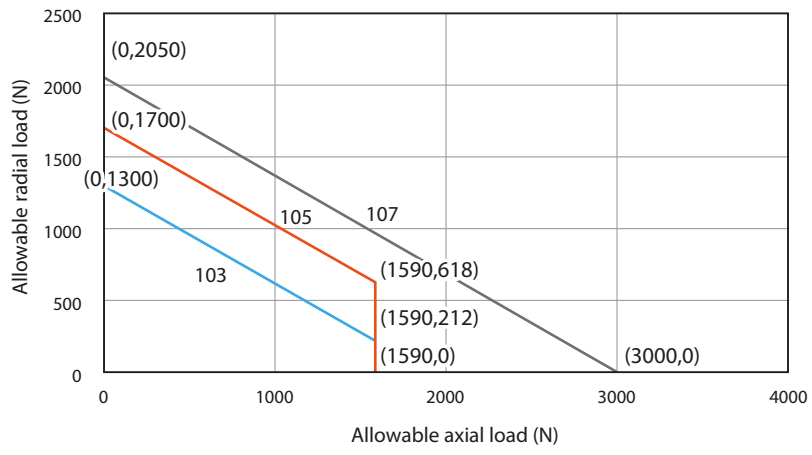

Figure 10-2
* If the radial load and the axial load act in combination with each other, ensure that the total load is within the load value indicated in Fig. 10-2.